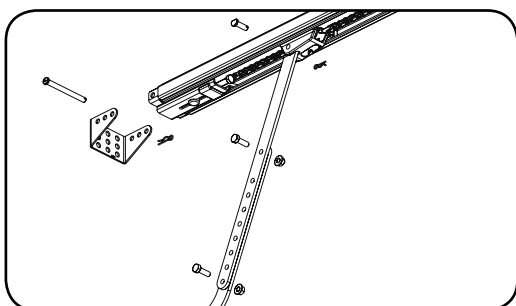

Fig. 17
- Attach the wall bracket to the C-Rail with the 90mm long clevis pin (Fig. 17) and secure by a snap pin.